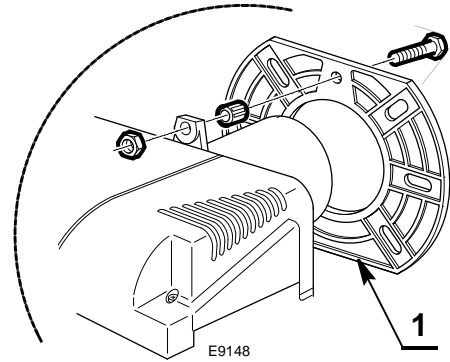

Fig. 8
- Put on the flange 1)(Fig. 8) the screw and two nuts.